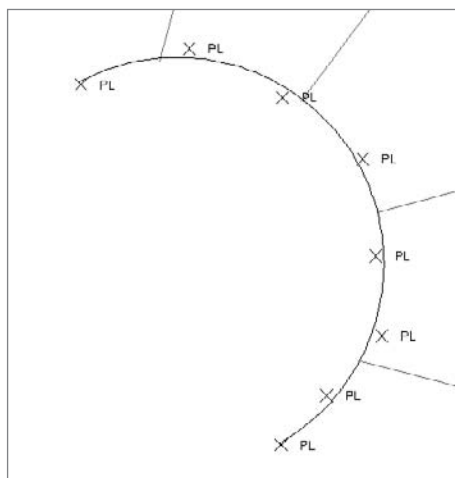

Figure A.2
7. Click the green checkmark in the upper-right corner of the Regression Data Panorama. An arc appears that is a best fit for the point data, as shown in Figure A.2.